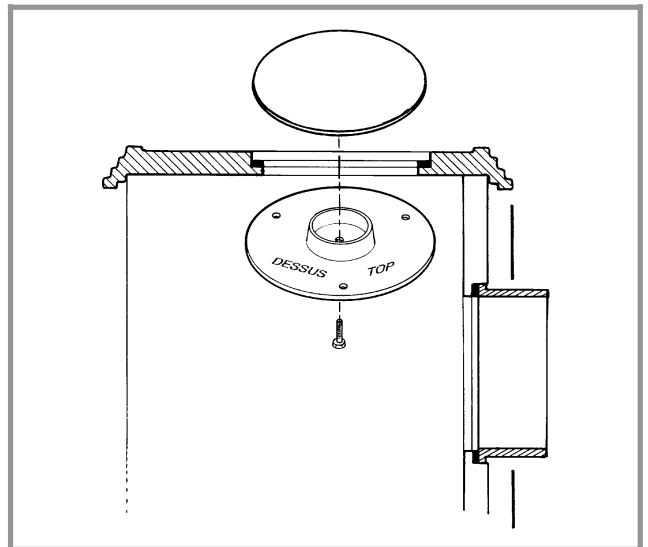

Fig. 7 - Smoke exit at rear
2.3.3. Smoke exit at rear (Figs. 7 and 6)